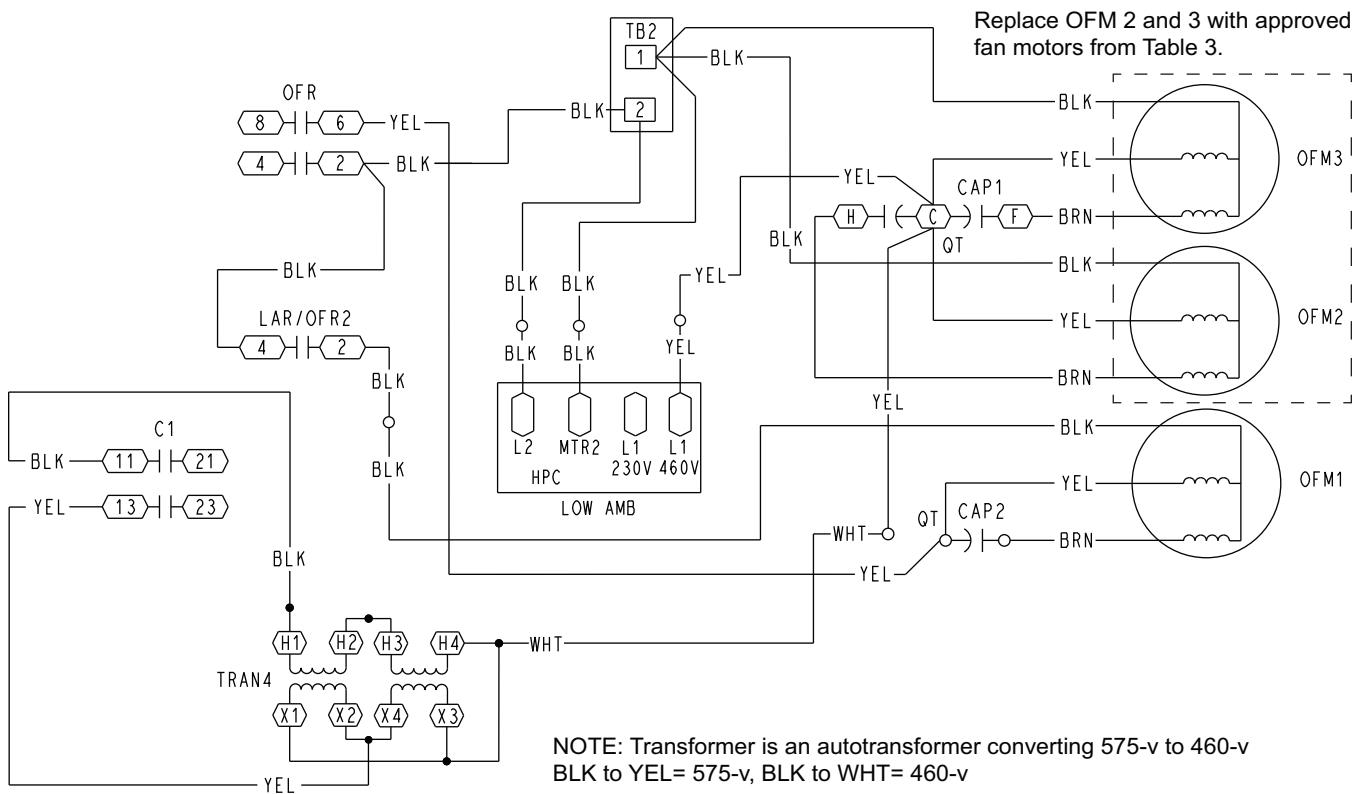

Fig. 13 — Cabinet B — High Voltage Wiring Diagram (575-v)
13. On 575-v units, refer to the transformer kit instructions for details on how to wire the transformer into the unit to match Fig. 13.
IMPORTANT: The transformer as wired in Fig. 13 has BLK to YEL=575-v and BLK to WHT=460-v.